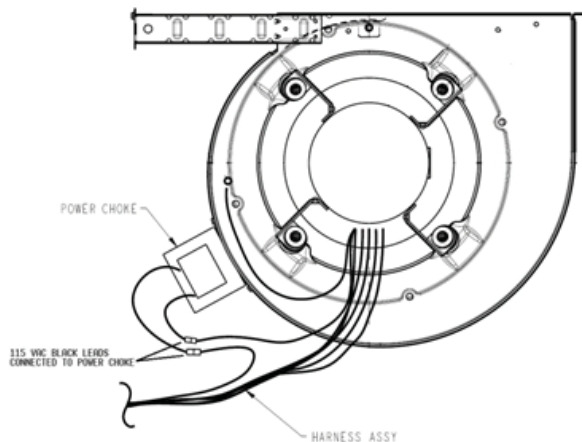

Fig. 3 – Power Choke Wiring
3. Connect each wire of the power choke to the appropriate mating end of the black wire. See Fig. 3.